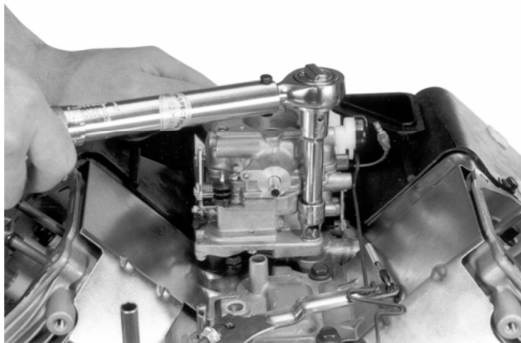

Figure 11-75. Installing Carburetor Assembly.
2. Install the carburetor, throttle linkage and governor lever as an assembly. See Figure 11-75. If a plastic intake manifold is used and the carburetor is equipped with a fuel solenoid, attach the ground lead to the carburetor mounting screw. See Figure 11-76.